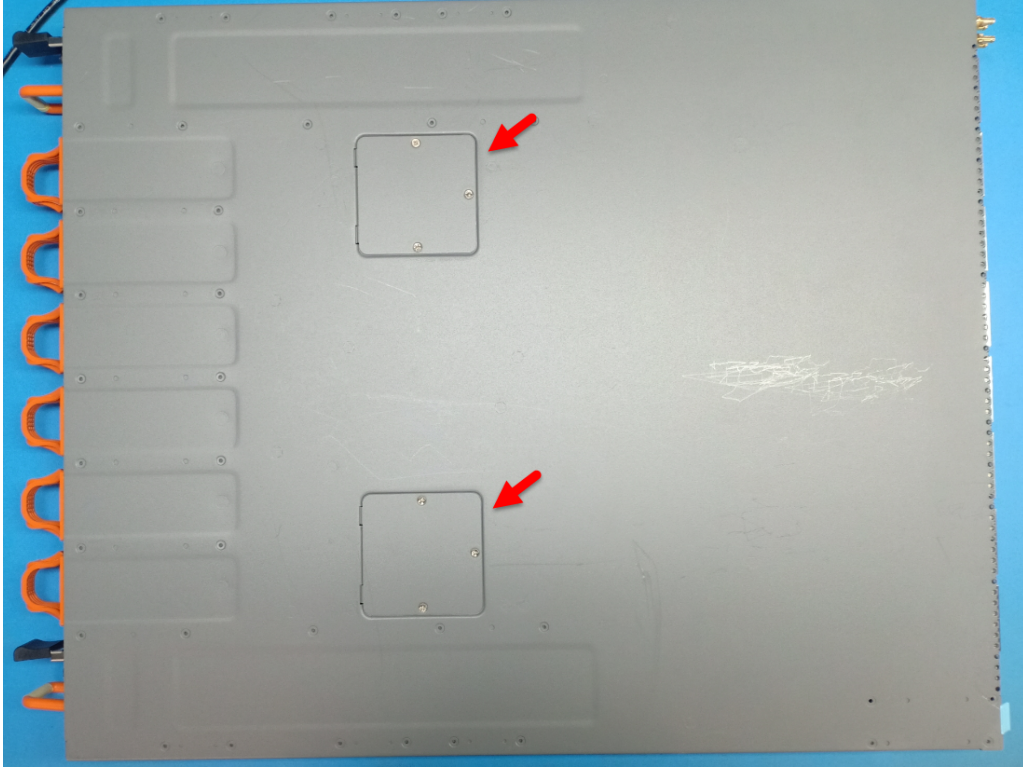

Figure 3-3: SATA SSD Windows
5. Remove the screws from the bottom of the chassis to access the two SATA SSD devices. Use a Philips screw driver to remove the SSD's (Figure 3-3).